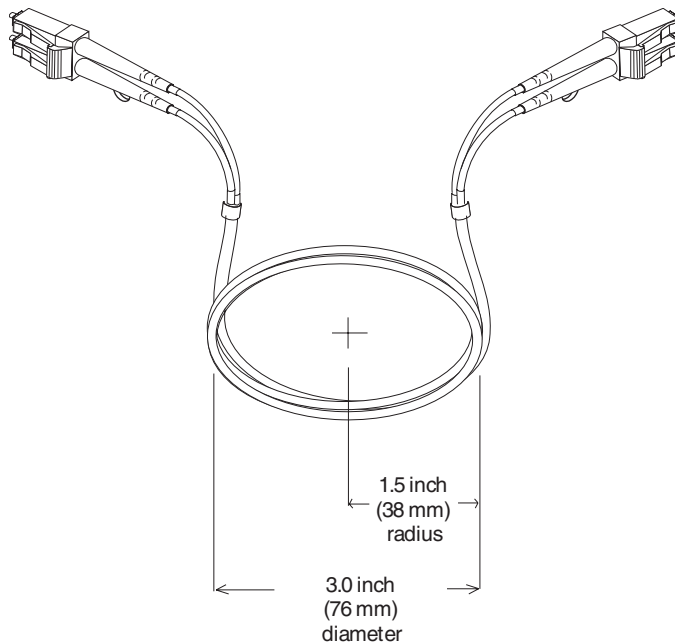

Figure 25. Bending and looping specifications for fiber-optic cables
- When storing excess or unused fiber-optic cables, do not bend the cables to a diameter of less than 76 mm (3 in.), or a radius less than 38 mm (1.5 in.) or wrap them around themselves. See Figure 25 on page 48.